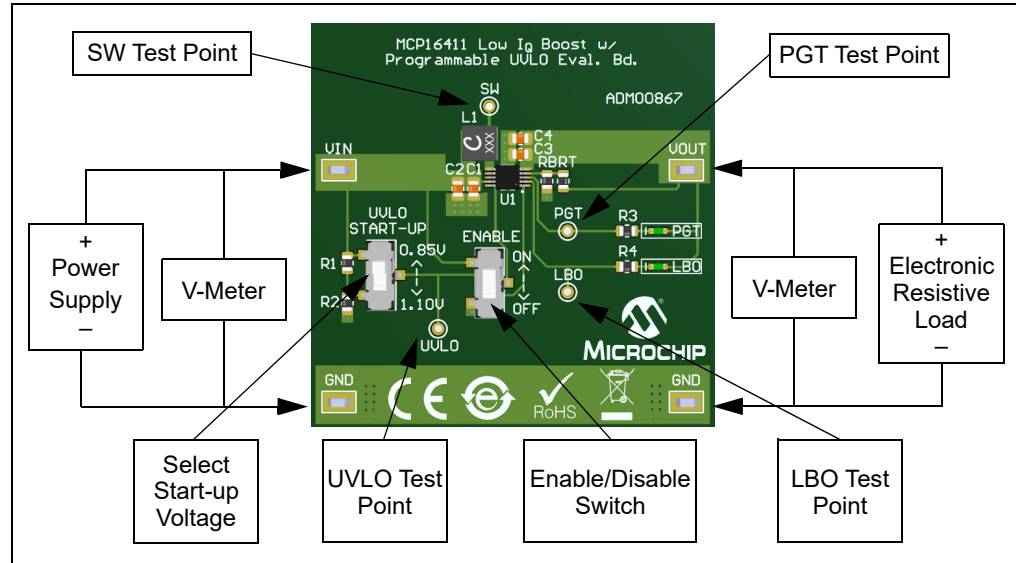

FIGURE 2-1: MCP16411 Low I_q Boost with Programmable UVLO Evaluation Board Setup.
1. Connect the power supply/battery as shown in Figure 2-1. The positive terminal must be connected to V_{IN} and the negative terminal to GND. The input voltage should not be higher than 5.25V.